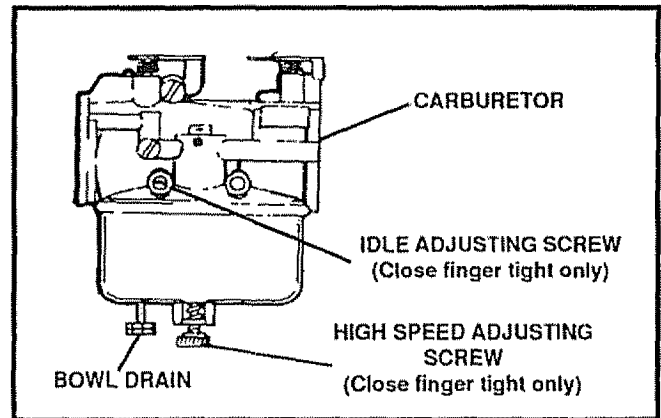
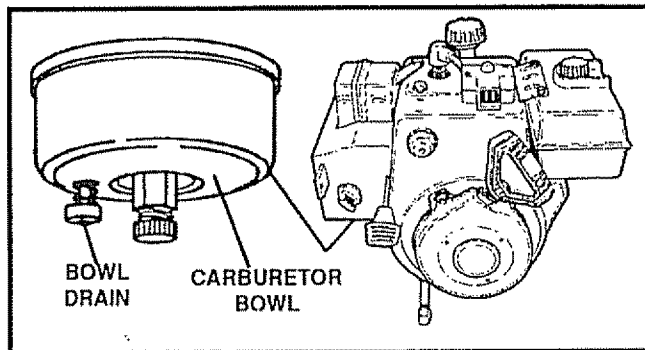

FIG. 39
FIG. 41
The carburetor (See Fig. 39 and Fig. 41 on page 25) has been pre-set at the factory and readjustment should not be necessary. However, if the carburetor does need to be adjusted, proceed as follows:
- To remove gasoline, run the engine until the tank is empty and the engine stops. Then drain remaining gasoline from carburetor by pressing upward on bowl drain located on the bottom of carburetor (See Fig. 41).